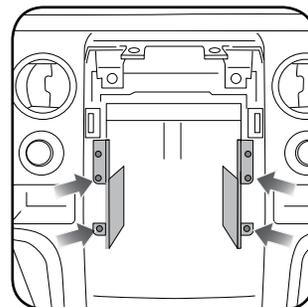

Fig. 1.9
8. Using (4) 7mm screws, reinstall the radio chassis brackets and set the screen brackets aside to be used later. (Fig. 1.9)